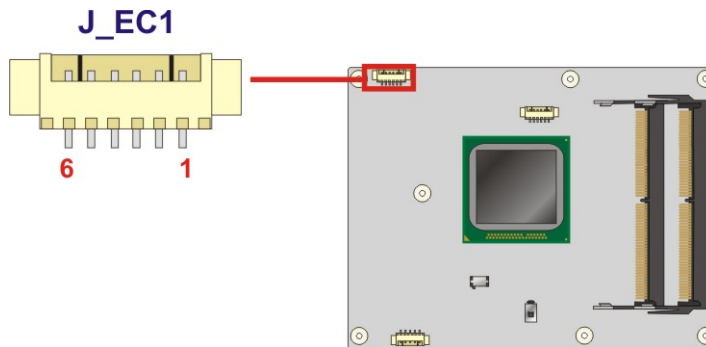

Figure 3-8: EC SPI Flash Connector Location
- CN Location:** See **Figure 3-8**